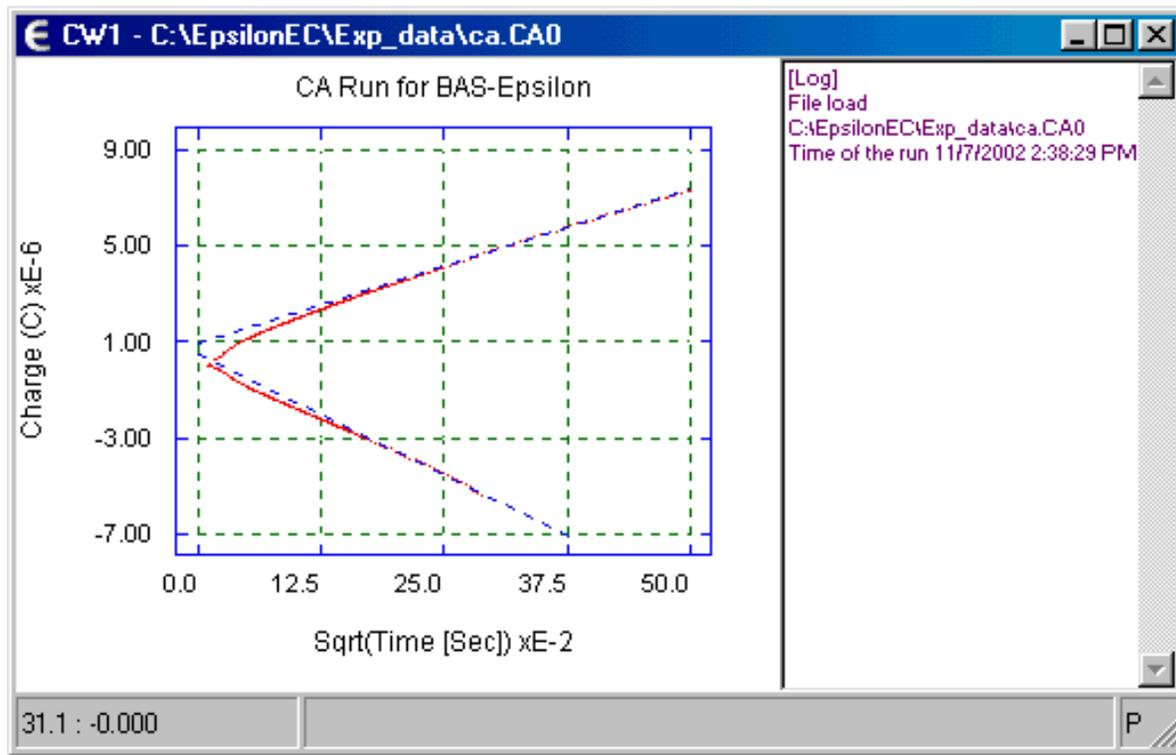
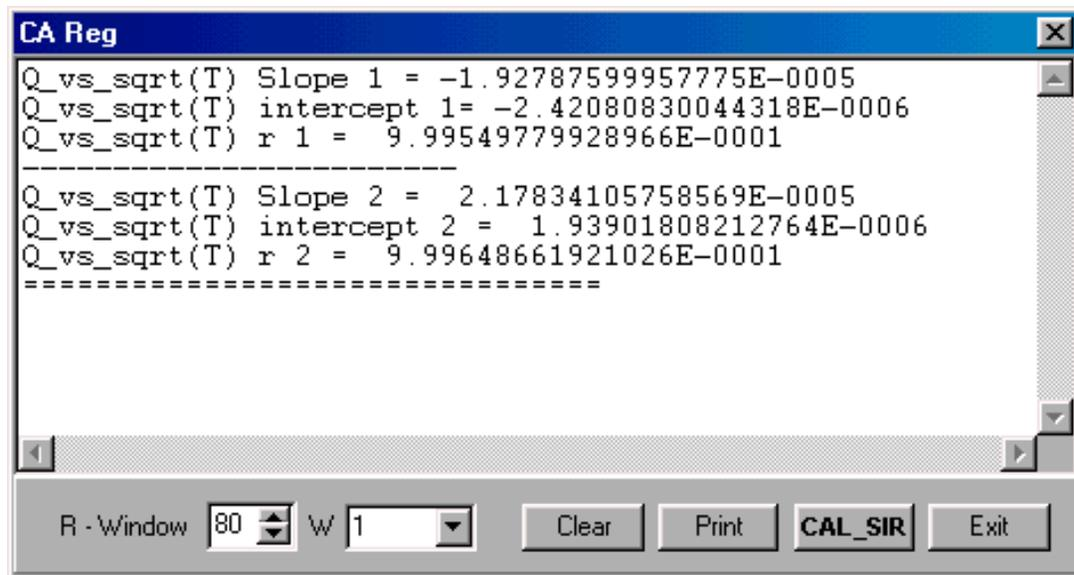

Figure 15. Q vs. sqrt(T) plot for Chronoamperometry/Chronocoulometry.
Figure 16. Calculation of slope and intercept of linear plot.
15. The data from a **Chronoamperometry/Chronocoulometry** experiment can be plotted in a number of different formats, which can be selected using **Select Graph** in the pop-up menu in the **Chronoamperometry/Chronocoulometry** experiment window. The **Q vs. sqrt(T)** plot is shown in **Figure 15**.
16. The epsilon software can calculate the slope and intercept of the linear **Q vs sqrt(T)** plot when it is displayed. Selecting **Data - Calculate CA-SIR** from the pop-up menu generates the information box shown in **Figure 16**. The lines used for the linear fitting are the dashed blue lines in **Figure 15** (note that the first 20% of the data points are not used in the calculation, due to interference from the charging current and other experimental artifacts).